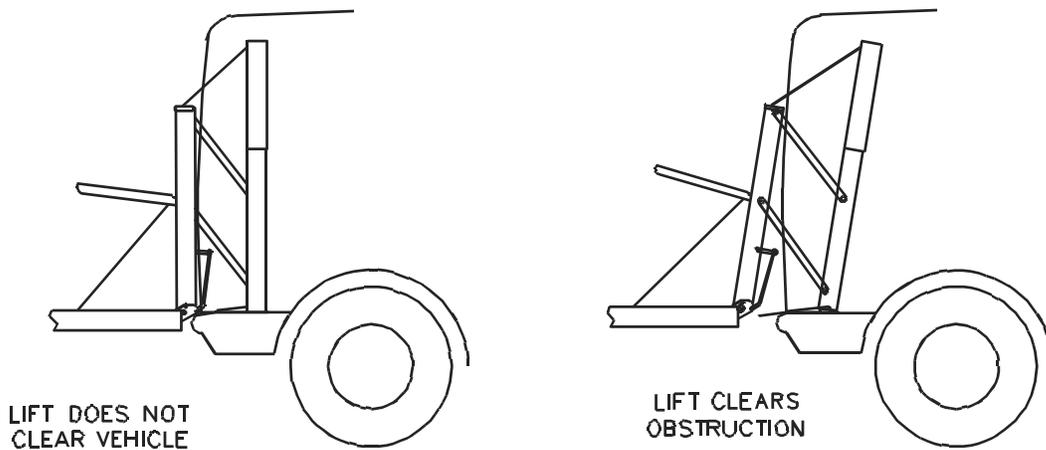

FIGURE 2-15: LIFT OPERATING CLEARANCE
- i. Refer to **Figure 2-15**. Using Control Pendant, CAREFULLY DEPLOY lift while observing for any contact with vehicle doorsill, bumper, or external accessories. (If lift does not clear vehicle, reposition or readjust extension bracket, intermediate bracket and/or base plate position).